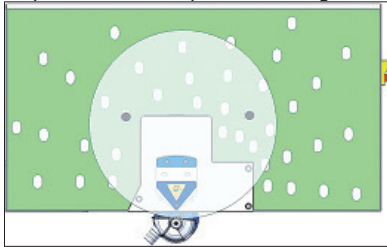
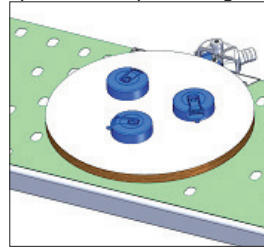

Fig. 18
Fig. 19
- When done installing the power trimmer, adjusting the positions of magnet chips according to the shapes and sizes of work pieces ( Fig18). Rising up the work pieces to easily trim the edges and suction cap can be attached onto work pieces. Suction caps can also be grabbed to spin the work pieces ( Fig19).